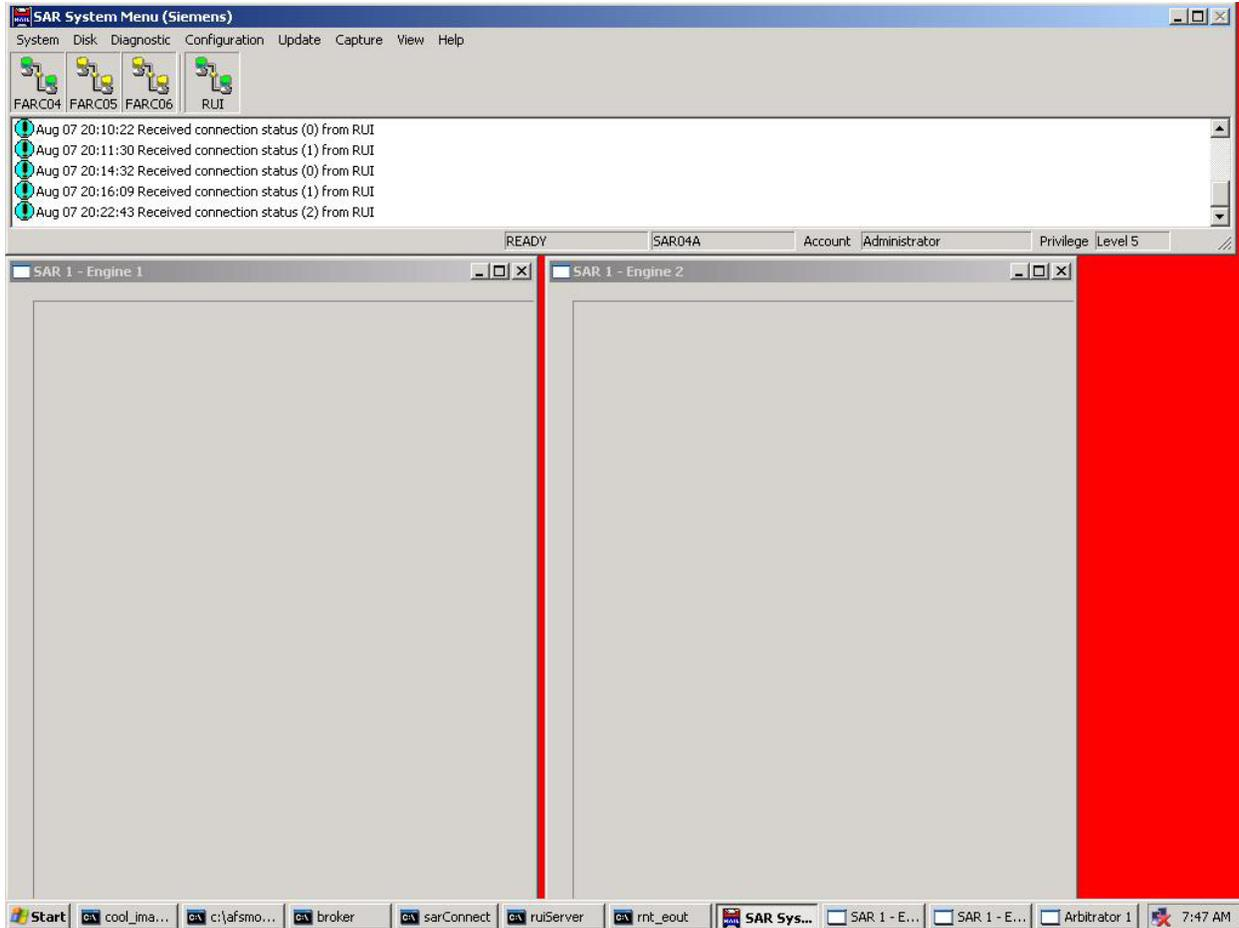

Figure 2-6. SAR System Menu
1. From the SAR 1 System Menu, click on **System**, then **Logoff**. See Figure 2-6.